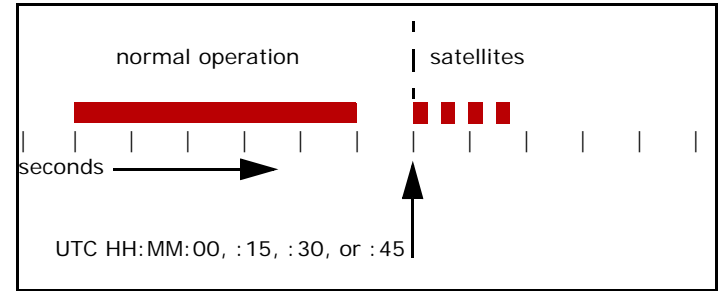
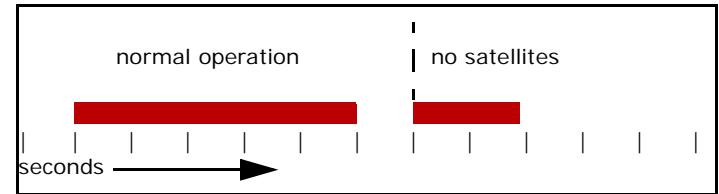

Fig. 2-27: Pattern of flashes indicating four (or more) satellites acquired.
Fig. 2-28: A single long flash indicates zero satellites acquired.
- After the 7-second instrument status indication, the LED pattern is 250ms on, 250ms off, for each satellite acquired, for up to four satellites (see Fig. 2-27). If no satellites have been acquired, the pattern is 1.9s on, 0.1s off (see Fig. 2-28).